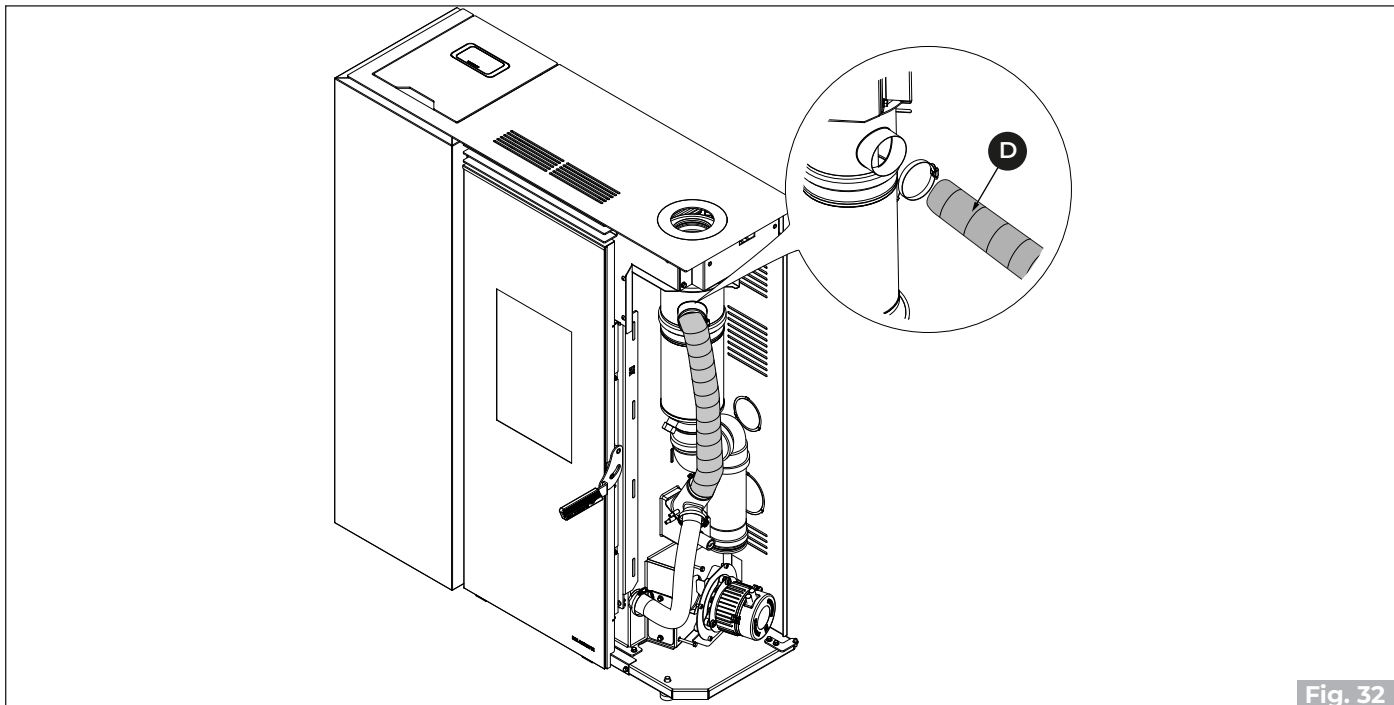

Fig. 32
- Disconnect the combustion air hose **(D)** in the upper part ("Fig. 32").